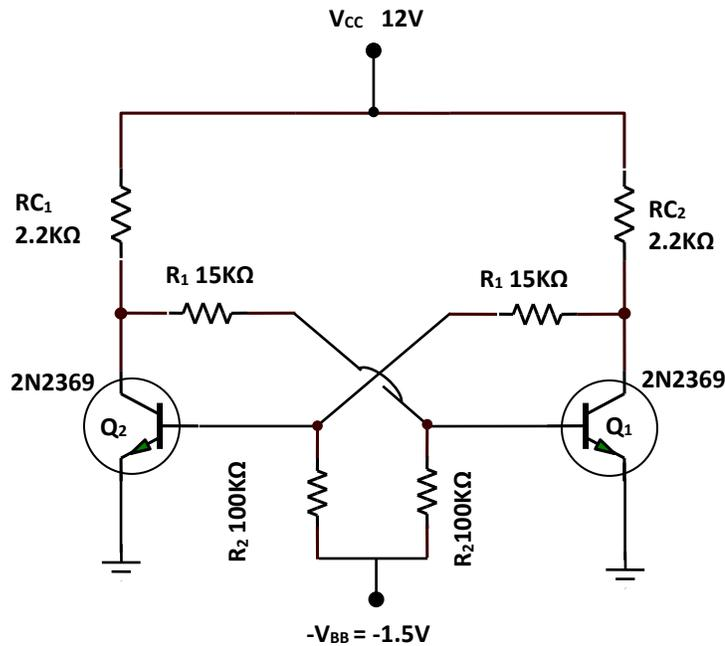

Figure: 2
1. Connect the circuit as shown in figure 2.